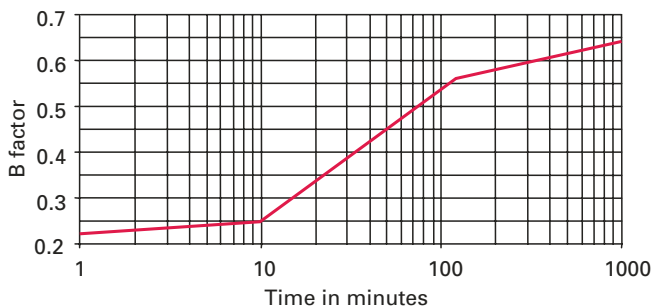

Figure E6. Cyclic pulse factor B.
Once a fuse has been selected using the above criteria, a check is required to see if the individual cyclic load pulses (each expressed in  $I_{pulse}$ ,  $t_{pulse}$  coordinates) have a sufficient safety margin in relation to the fuse's melting current at each pulse duration.  $I_t$  is the fuse's melting current corresponding to each pulse ( $t = t_{pulse}$ ) duration, and the cyclic pulse factor  $B$  can be found in Figure E6 for a period ( $T$ ) of a cyclic loading condition.
While a 200 A fuse may be sufficient, a safety factor check (B) is needed to ensure that the pulse keeps a sufficient safety distance from the fuse's melting curve. This is obtained from the Rule 2  $I_{\text{pulse}}$  equation in Part 3, using Figure E6 for a given total time period  $T = 17$  minutes, then  $B = 0.32$ .